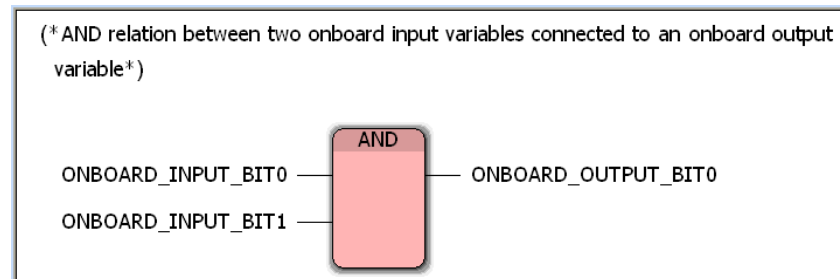

Figure 5-38 ANDing
- Insert the ONBOARD_INPUT_BIT0, ONBOARD_INPUT_BIT1, and ONBOARD_OUTPUT_BIT0 system variables in the worksheet according to Figure 5-38 on page 56.